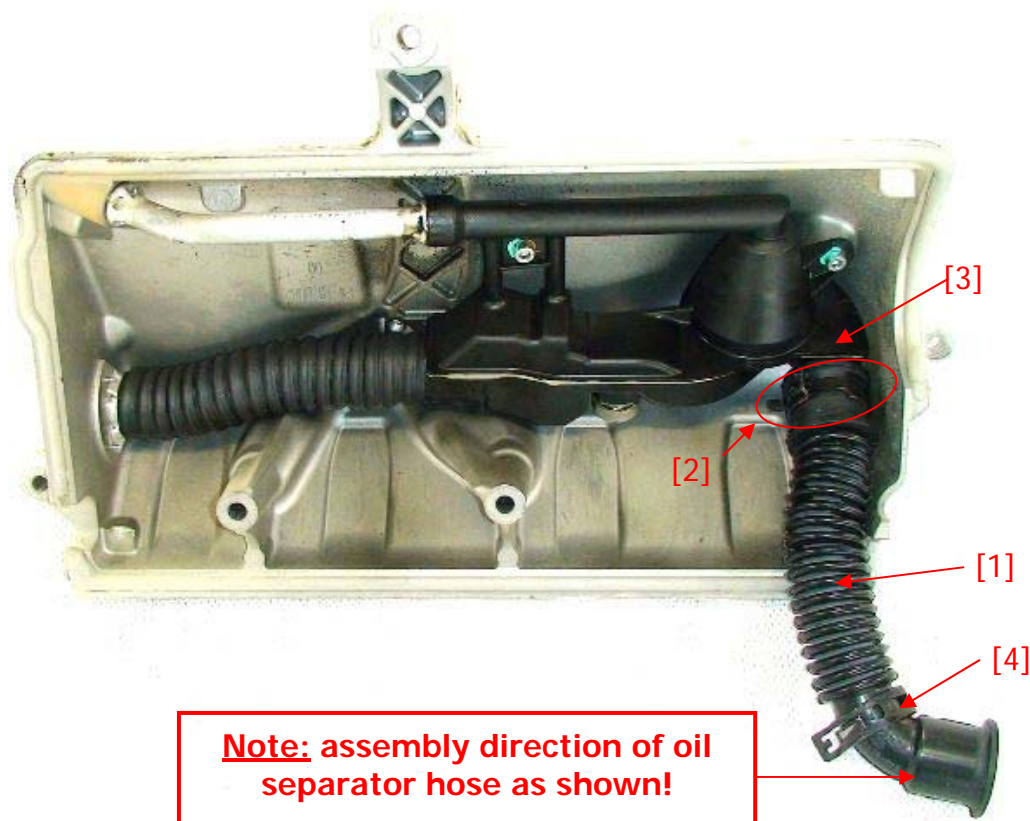
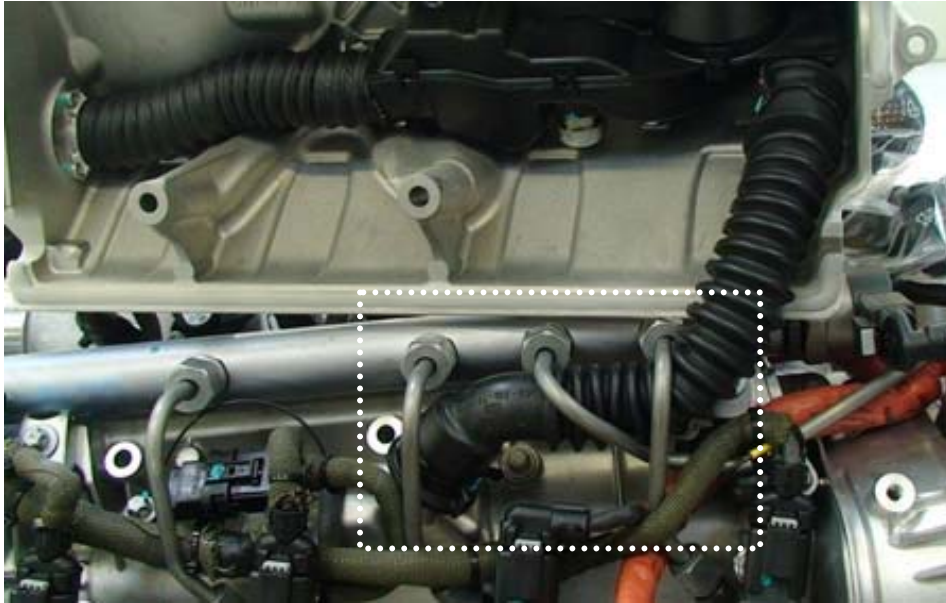

Figure 3: oil separator hose assembly - new design
Figure 4: oil separator hose rooting
- Assemble the new oil separator hose [1] to the oil separator [3] by using the existing hose clamp [2] and the tools shown under chapter 3.2, see Figure 3. Further pre assemble the second hose clamp [4] for later installation of the injector cover.
Please note assembly direction of oil separator hose as shown in Figure 3. This is important for the installation of the injection cover, see Figure 4.
5. Install the injector cover according the instructions given in the Maintenance Manual E4.08.04 chapter 85-00-12 – *“Installation of Injector Cover”*. Note the rooting of the oil separator hose shown in Figure 4.